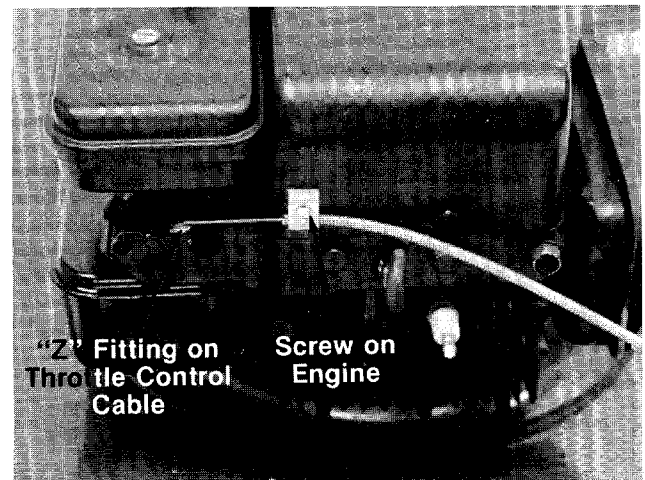

FIGURE 27.
6. Disconnect the throttle control cable from the engine by loosening screw on engine and disconnecting the "Z" fitting. See figure 27.